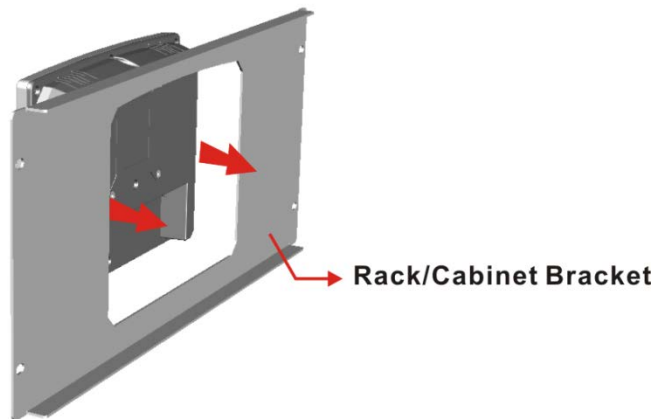

Figure 3-23: The Rack/Cabinet Bracket
- Step 1:** Slide the rear of the PPC-FxxC-Q370 panel PC through the rack/cabinet bracket until the aluminum frame is flush against the front of the bracket (**Figure 3-23**).